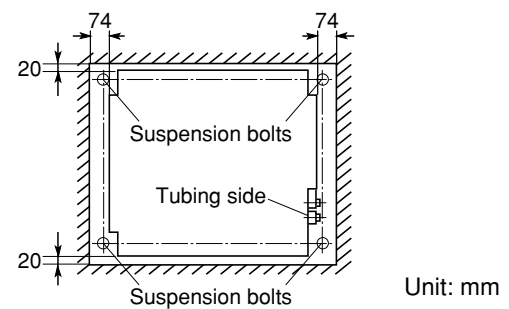

Fig. 3-7
(3) The distance between the unit and the opening of the ceiling and the distance between the bottom surface of the ceiling and the bottom surface of the flange of the unit should follow the dimensions given in Figs. 3-7 and 3-8.